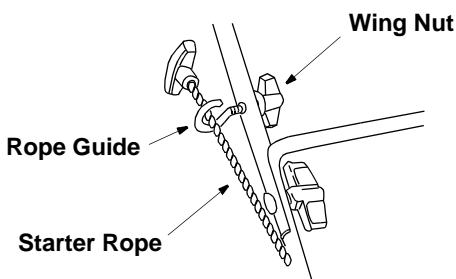

Figure 5
- Loosen the wing nut which secures the rope guide to the right side of upper handle. See Figure 5.
- Tighten the wing nut. See Figure 5.